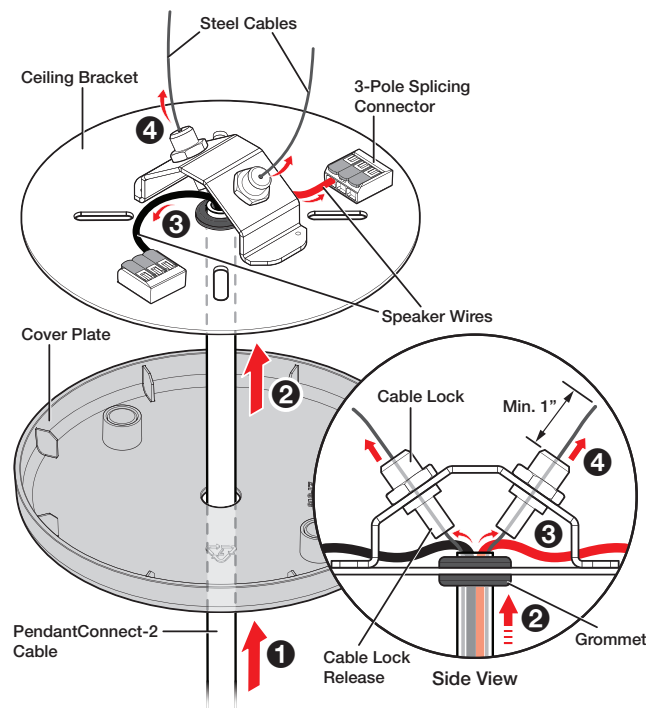

Figure 13. Ceiling Bracket Installation
The optional SMK C SF 26PT Extron Ceiling Bracket Kit for 6-inch and larger pendant speakers allows the SF 28PT speaker assembly to be suspended from a junction box. The kit consists of a ceiling bracket and a matching magnetic cover (see figure 13).
5. Route the free end of the PendantConnect-2 cable through the ceiling bracket cover (see figure 13, ①, on page 11) with the magnetic side of the cover facing the ceiling bracket.
6. Route the free ends of the two steel support cables through the two ceiling bracket cable locks (④). Pull the steel support cable up until the top of the jacket is flush with the top of the grommet (②). Inserting the steel cable through the bottom of the cable lock locks the cable in place. Pressing the cable lock release unlocks the cable.